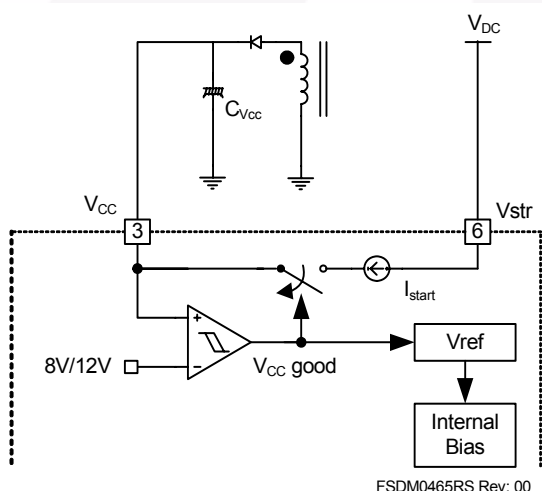

Figure 17. Internal Startup Circuit
1. Startup: In previous generations of Fairchild Power Switches (FPS™) the V_{CC} pin had an external startup resistor to the DC input voltage line. In this generation the startup resistor is replaced by an internal high-voltage current source. At startup, an internal high-voltage current source supplies the internal bias and charges the external capacitor (C_{VCC}) that is connected to the V_{CC} pin shown in Figure 17. When V_{CC} reaches 12V, the FSDM0465RS begins switching and the internal high-voltage current source is disabled. The FSDM0465RS continues its normal switching operation and the power is supplied from the auxiliary transformer winding unless V_{CC} goes below the stop voltage of 8V.